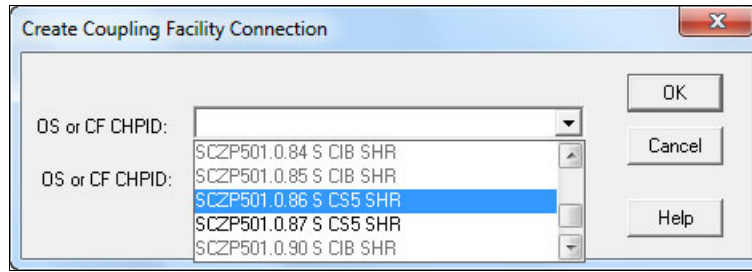

Figure 6-30 HCM - Create Coupling Facility Connection: selecting first CS5 CHPID
18.HCM displays the Create Coupling Facility Connection window (Figure 6-30). From the pull-down, select the first CS5 CHPID that we defined (SCZP501 - 0.86).